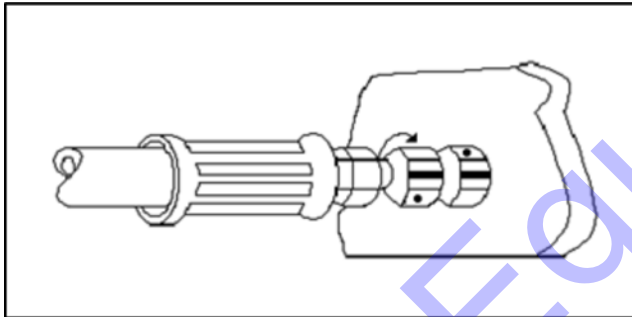

Figure 5-13. FFWR Method
2. Mark a dot on one of the swivel hex nut flats and another dot in line on the connecting tube adapter. See Figure 5-13.
3. Use the double wrench method per Appendix A, turn the swivel nut to tighten as shown in Figure 5-13. The nut is to be rotated clockwise the number of hex flats as defined by the applicable Table in Section 5.0.
4. After the connection has been properly tightened, mark a straight line across the connecting parts, not covering the dots, to indicate the connection has been properly tightened. See Figure 5-13.